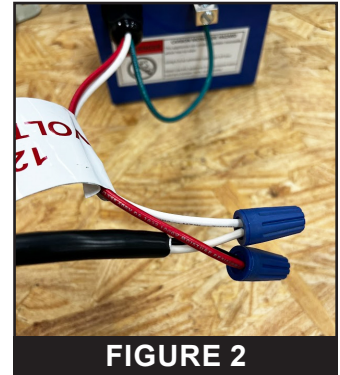

FIGURE 2
8. Connect both conductors, and the ground wire, to the corresponding wires in the junction box or 12 VAC transformer. See **FIGURE 2**.